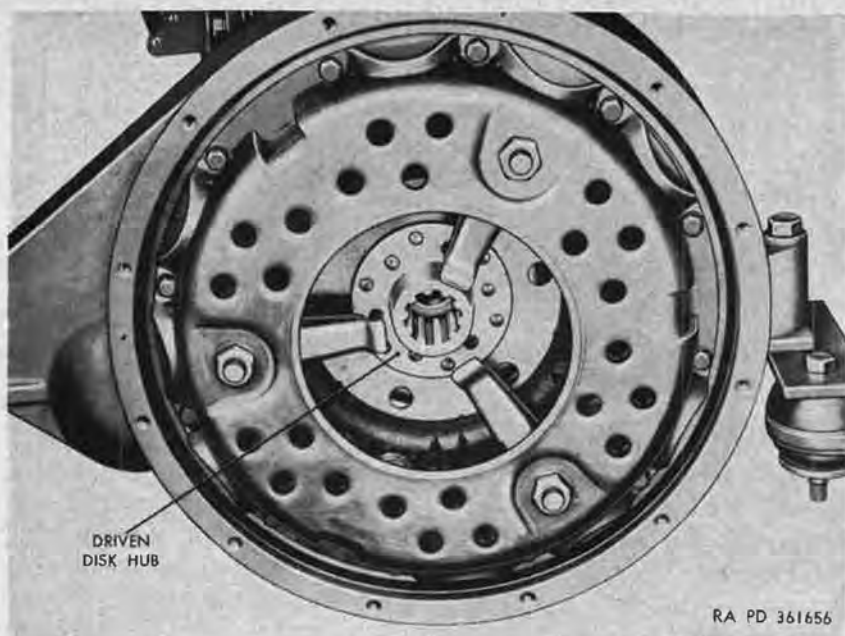
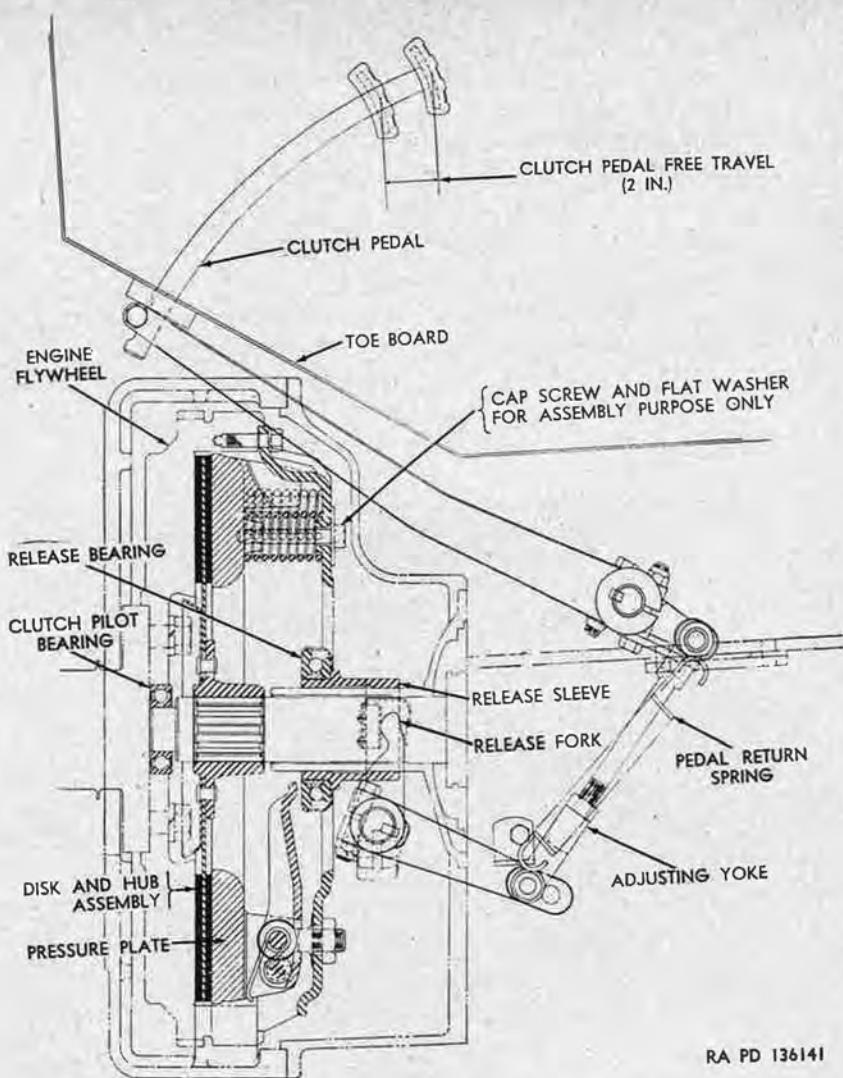
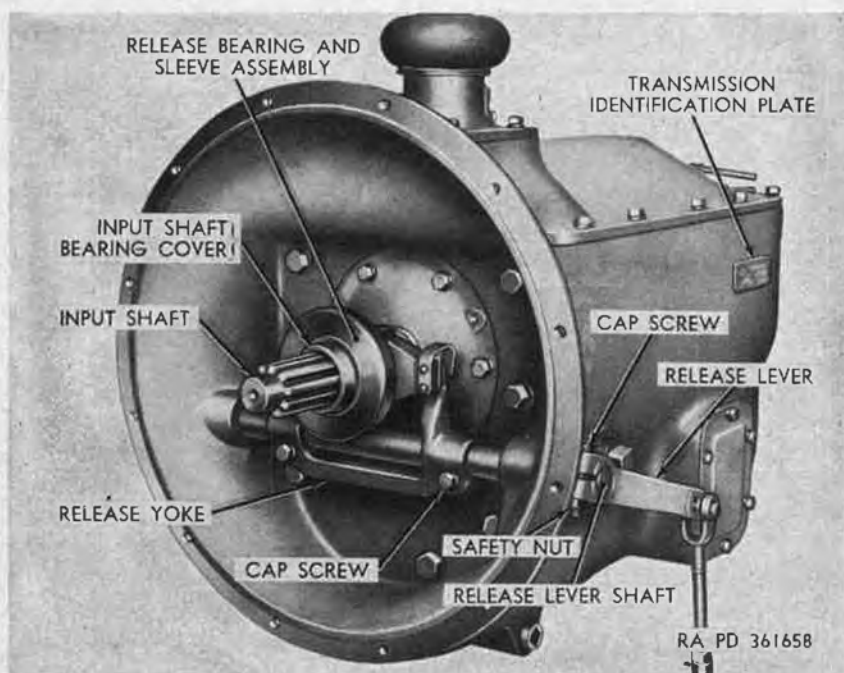
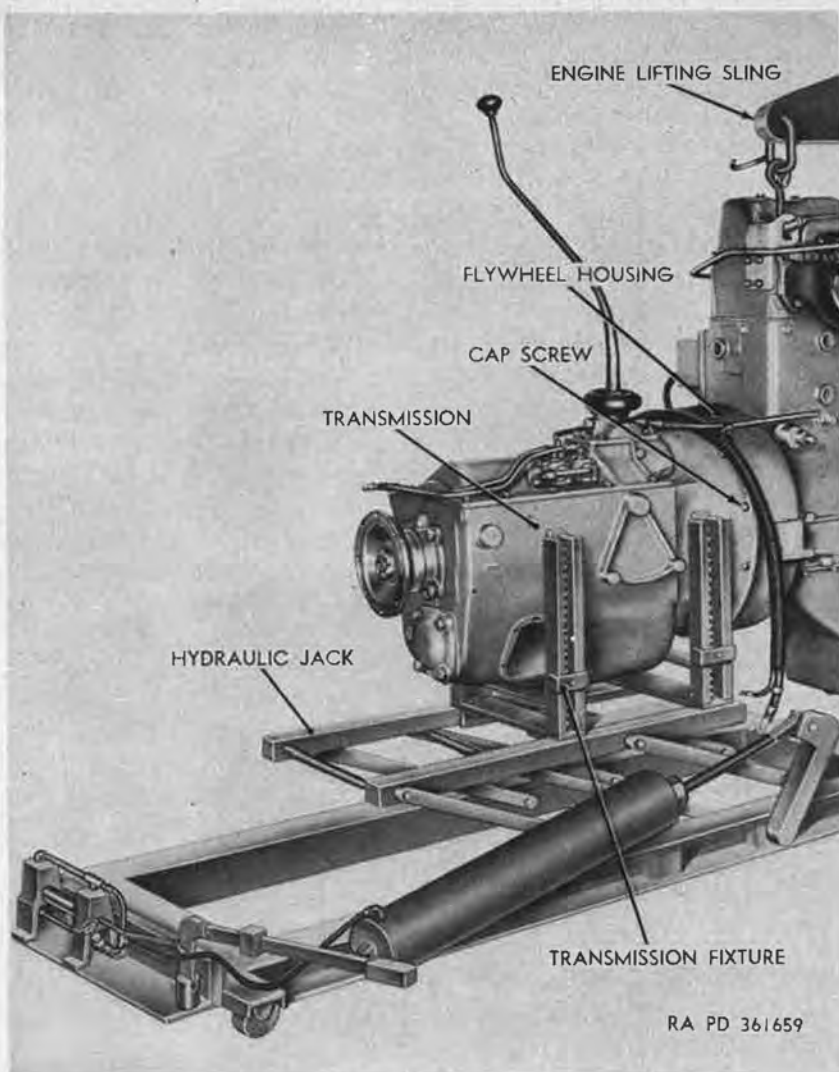

Figure 195. Clutch assembled to engine flywheel.
Figure 196. Diagram of clutch and control linkage.
Figure 200. Left front view of transmission and clutch release mechanism.
Figure 201. Supporting transmission with hydraulic jack.
a. Description. The clutch (fig. 195) is a single-plate, dry-disk unit secured to the rear of the engine flywheel by 12 cap screws. When installed in the power plant, the clutch is completely enclosed by the flywheel housing and the clutch housing, which is bolted to the front of the transmission (par. 204). The purpose of the clutch is to connect and disconnect the engine and transmission, thereby permitting operation of the engine when the vehicle is standing still, as well as permitting the selection of different transmission gear ratios when the vehicle is in motion. Depressing the clutch pedal (fig. 196) causes the release fork to move the release bearing forward on the transmission input shaft and contact the release levers. Pressure of the bearing on the release levers relieves pressure of the compression springs on the pressure plate. Therefore, when the clutch pedal is fully depressed with the linkage properly adjusted, the clutch is fully released. When the clutch pedal is fully released, the clutch is fully engaged.
- (5) Unhook lower end of clutch pedal return spring from bracket on outside of frame left side rail.
- (6) Depress clutch pedal and note pedal free travel (fig. 196).
- (7) If pedal free travel determined in (6) above is still incorrect, repeat (2), (3), (4), and (6) above until correct free travel is obtained.
- (3) Place disk assembly (fig. 196) in position against flywheel with long end of disk hub toward rear.
- (1) Remove transmission (par. 205).
- (2) Loosen cap screw and safety nut securing release lever to left end of release lever shaft (fig. 200), and slide lever and locating key off shaft.
- (3) Loosen two cap screws securing release yoke to the release lever shaft (fig. 200) and remove release lever shaft, keys, and yoke from clutch housing.
- (4) Slide release bearing and sleeve assembly forward and remove from transmission input shaft (fig. 200).
e. Clutch Release Bearing and Sleeve Assembly Installation (fig. 200).
- (1) Start release lever shaft through hole in left side of clutch housing, making sure that shaft oil seal is installed in hole and in good condition.
- (2) Place a small amount of artillery and automotive grease (GAA) in bore of release bearing sleeve and slide release bearing and sleeve assembly onto input shaft bearing cover.
- (3) Hold release yoke in position and slide release shaft through yoke and into shaft hole in right side of clutch housing.
- (4) Install locating keys, and tighten two cap screws to lock yoke on release lever shaft.
- (5) Install release lever and locating key on left end of release lever shaft, and tighten cap screw and selflocking nut.
- (6) Install transmission (par. 205).
- (3) Position hydraulic jack (fig. 99) with transmission fixture installed, and raise until weight of transmission is just supported by jack (fig. 201).
- (4) Remove 12 cap screws (fig. 201) and lockwashers securing transmission to flywheel housing. Carefully pull transmission away from flywheel housing.
Caution: Be sure that transmission is properly supported and pulled straightaway from engine. Otherwise the clutch driven disk may be distorted sufficiently to prevent free removal of the transmission input shaft (fig. 200) from the driven disk hub (fig. 195).
- (1) Clean gasket surfaces on flywheel housing and clutch housing, and install new gasket on clutch-housing mounting flange.
- (2) With transmission supported by hydraulic jack (fig. 201), position transmission at rear of engine so that splines on front end of input shaft (fig. 200) are alined with splines in hub (fig. 195) of clutch driven disk assembly.
- (3) Carefully move transmission toward engine, with input shaft entering driven disk hub, until clutch housing contacts flywheel housing.
- (4) Aline holes in clutch-housing mounting flange with holes in flywheel housing flange, and install 12 cap screws (fig. 201) and lockwashers in holes. Tighten cap screws.